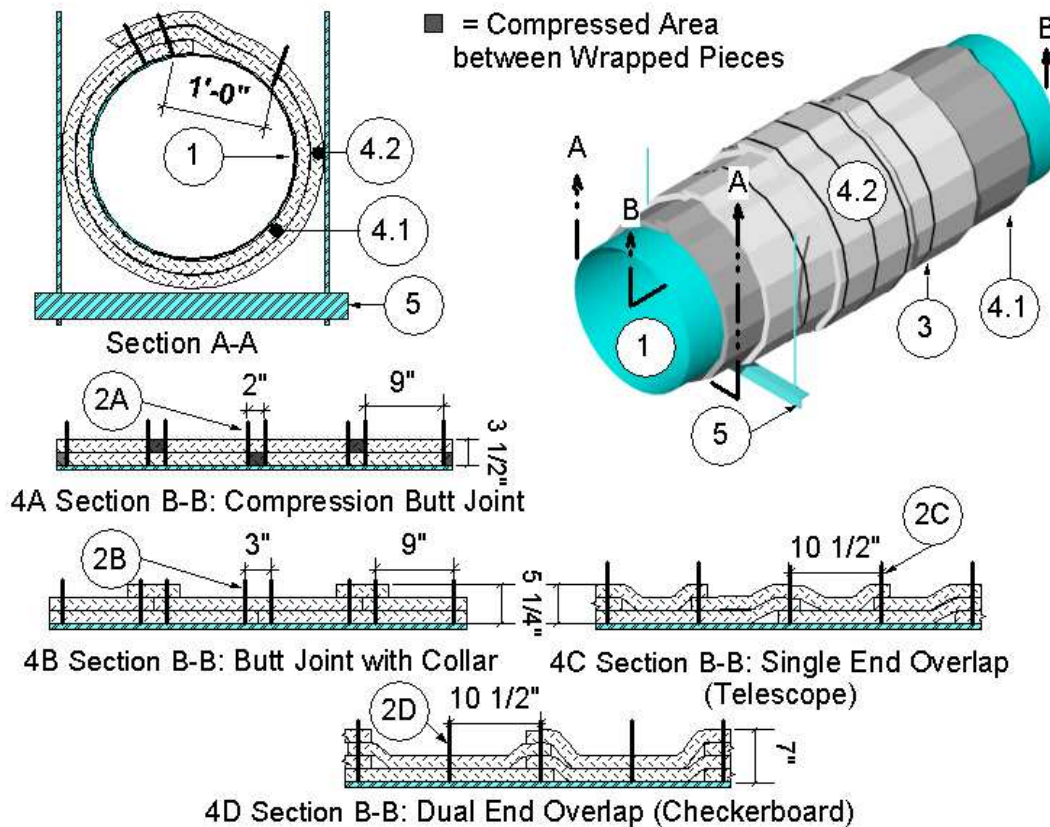

Figure 1
2. FASTENERS: Refer to Figure 1. Weld minimum 12 GA, 6-1/2 in. long, copper-coated, steel insulation pins or 12 GA, insulated cup head steel pins to the grease duct (Item 1). Match the following fastener method with corresponding insulation (Item 4) method.
- INSULATION: Apply the non-combustible (ASTM E136) and durable (ASTM C518) insulation in two layers of nominal 1-1/2 in. thick, 6-pcf density blanket, made of calcium-, silica-, and magnesium-oxide (CSM) fibers, encapsulated with polypropylene-foil or aluminized polyester-foil scrim over the entire surface of the grease duct (Item 1). Apply the inner first layer (Figure 1, 4.1) in accord with one of the four methods (A, B, C, or D) that follow. Offset the second outer layer (Figure 1, 4.2) one half the width of the inner first layer (Figure 1, 4.1) so that the joints of the inner first layer (Figure 1, 4.1) are covered by and approximately in the center of the second outer layer (Figure 1, 4.2). Apply the second outer layer (Figure 1, 4.2) in accord with the same method selected for the first inner layer (Figure 1, 4.1). Use blanket, available in various widths, that is fully encapsulated or single faced with a polypropylene-foil or polyester-foil scrim. Expose a foil-faced side of insulation to view. Wrap one layer